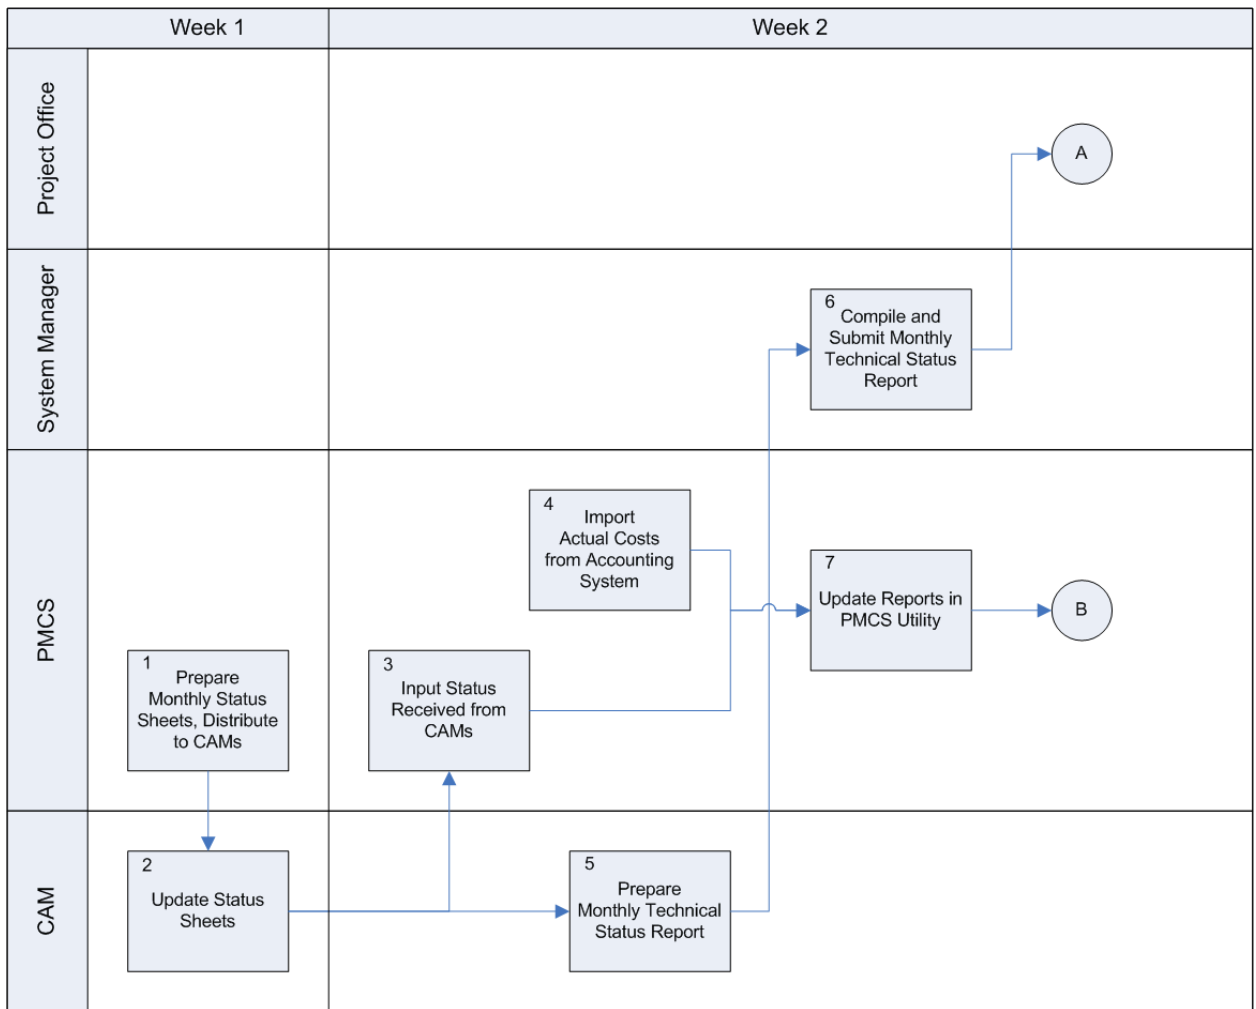

Figure 1. Collect and Compile Status Data
- Figure 1. Collect and Compile Status Data 4